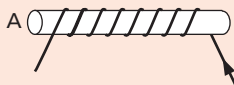

Figure 45.15
- 2 Figure 45.15 shows a solenoid wound on a core of soft iron. Will the end A be a N pole or S pole when the current is in the direction shown?